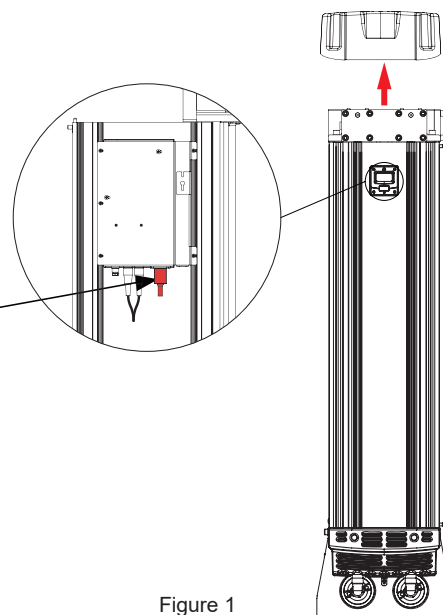

Figure 1
- Locate the two latches on the top and bottom manifold and pull in the opposite direction to each other to open the shroud, this will then expose the controller (See Fig 1.)
- Remove the IEC plug from the controller socket (See Fig 1.)